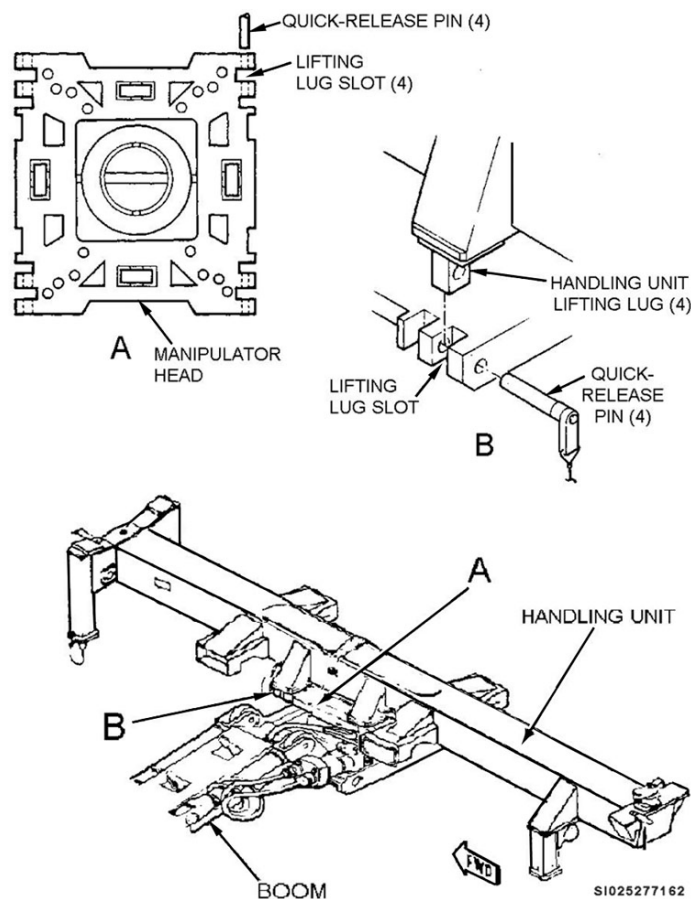

Figure 3-4. Missile-handling unit positioning on the lift truck manipulator head.
4. Position the manipulator head under the missile-handling unit and attach with four quick-release pins inserted through the handling unit lifting lugs and slots in lift truck manipulator head (fig. 3-4).